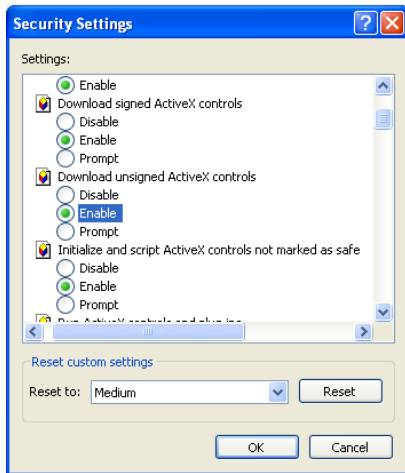

Fig 4-2
- ③ Enable all the sub options under “ActiveX controls and plug-ins”. Refer to Fig 4-2.